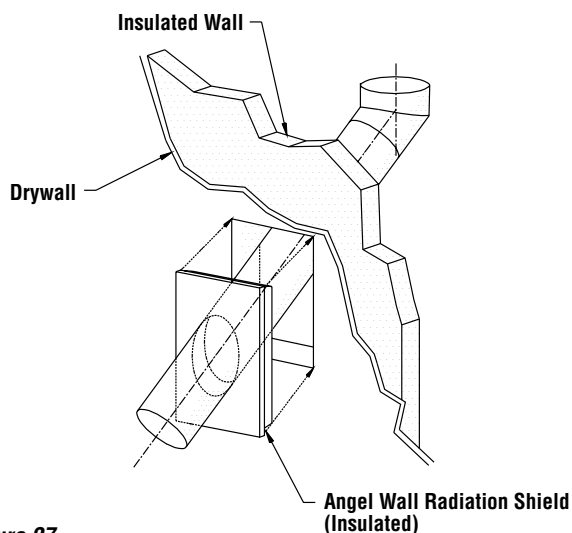

Figure 27
1. Install the first elbow. Turn it in the required direction. Fasten it to the chimney with the three (3) 1/2" (12mm) metal screws provided.
2. Install the necessary lengths to achieve the required offset. Lock the chimney lengths together: it is recommended to use three (3) 1/2" (12mm) screws. If the offset length is made of two (2) chimney lengths use an offset support halfway up the offset. If penetrating a wall, install a wall radiation shield (see **Figure 27**).
3. Use another elbow to turn the chimney vertically. Secure the elbow, using three (3) 1/2" (12mm) screws (provided with the elbow).
2. Install the necessary chimney lengths to achieve the required offset. Lock the chimney lengths together. If penetrating a wall, use a wall radiation shield (**Figure 27**).
When traversing a combustible wall with the chimney at a 30° or 45° angle, an angled firestop and/or wall radiation shield must be installed. Only one is required (**Figure 27**). **Table 6** gives recommended hole size for installing a wall radiation shield.